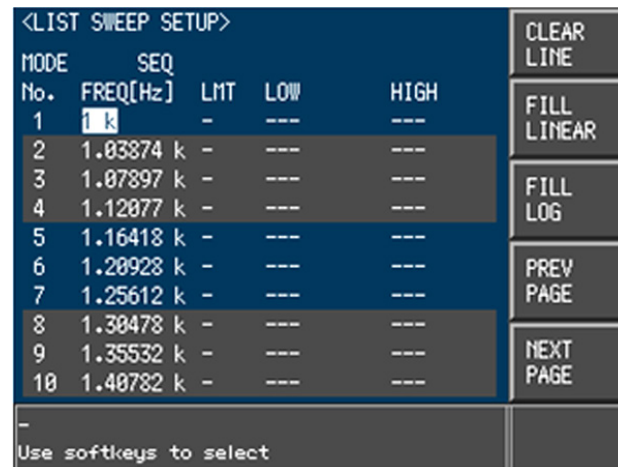

Figure 4. List frequency filled up.
- Move cursor onto **FREQ[Hz]** field by pressing **[▼]** front panel key (4 times)
- Press **NEXT PAGE** softkey to see that the list frequency is filled up (Figure 4)